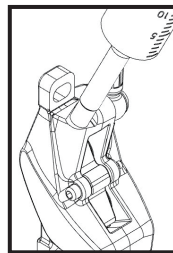

Fig 7
- Caliper side: connect the oil injector and 10cm PU tube. **(Fig 7)**